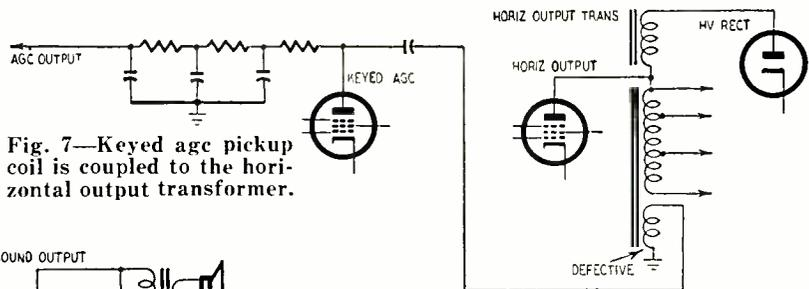

Fig. 7—Keyed agc pickup coil is coupled to the horizontal output transformer.
e. Agc circuit: Agc faults which can cause weak video include: defective agc rectifier amplifier tube or clamping diode; change of resistor or capacitor value in agc stage or bus; shorted or leaky capacitor in the agc bus; agc control incorrectly set; defect in agc control or associated circuit. In keyed agc circuits a defective keyer pulse coil may cause loss of agc (Fig. 7).